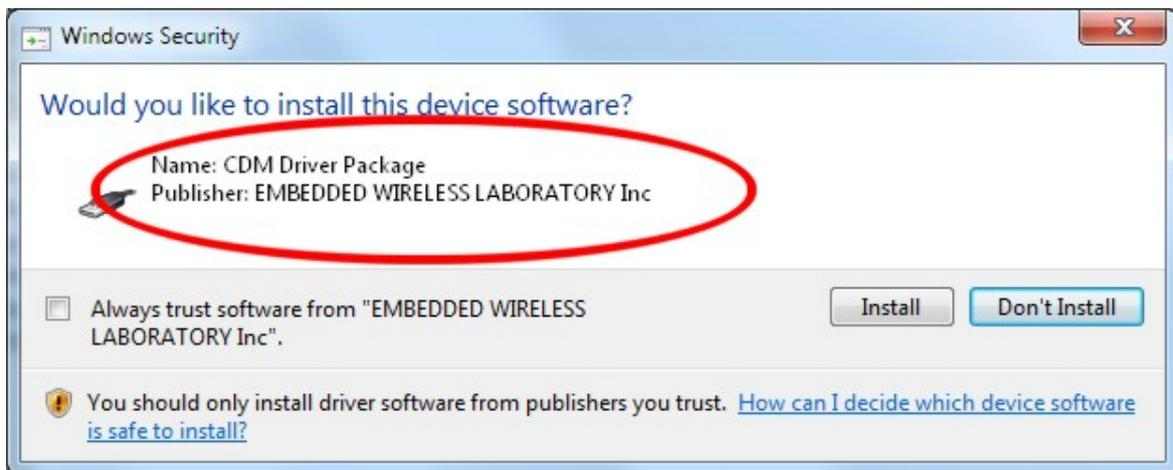

Figure 7. "Windows Security" alert
- In a couple of seconds, the Windows security alert screen will appear. Make sure the drivers are signed by "EMBEDDED WIRELESS LABORATORY Inc." Press the "Install" button (Figure 7)
- In a couple of seconds, the Windows security alert screen will appear. Select the "Install this driver software anyway"(Figure 7)